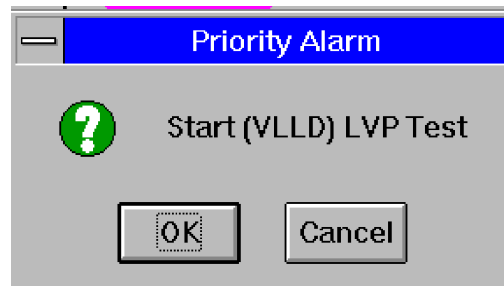

Figure 13. VLLD Priority Alarm Window
2. A Priority Alarm window appears, in this example there is a VLLD alarm [Figure 13 on page 17]. Cover the dispenser handles or take other measures to prevent them from being lifted. If a pump handle is lifted during the LVP (Line Verification Procedure) test, the submersible pump will again be shut down and the alarms reactivated.